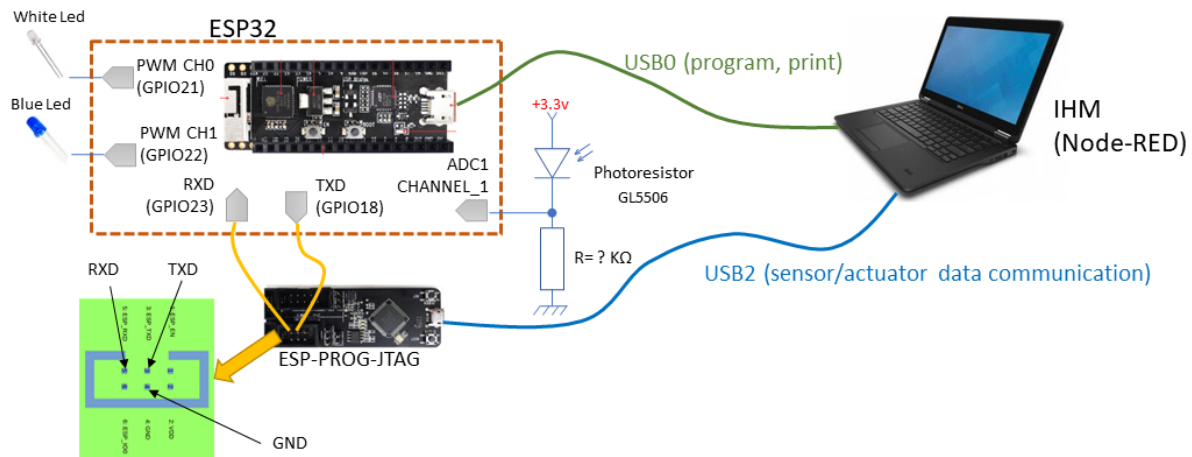

FIGURE 4.2 – Hardware specification.
The hardware specification is also depicted in the figure 4.2.
7. Wiring the board as depicted in the figure 4.2.